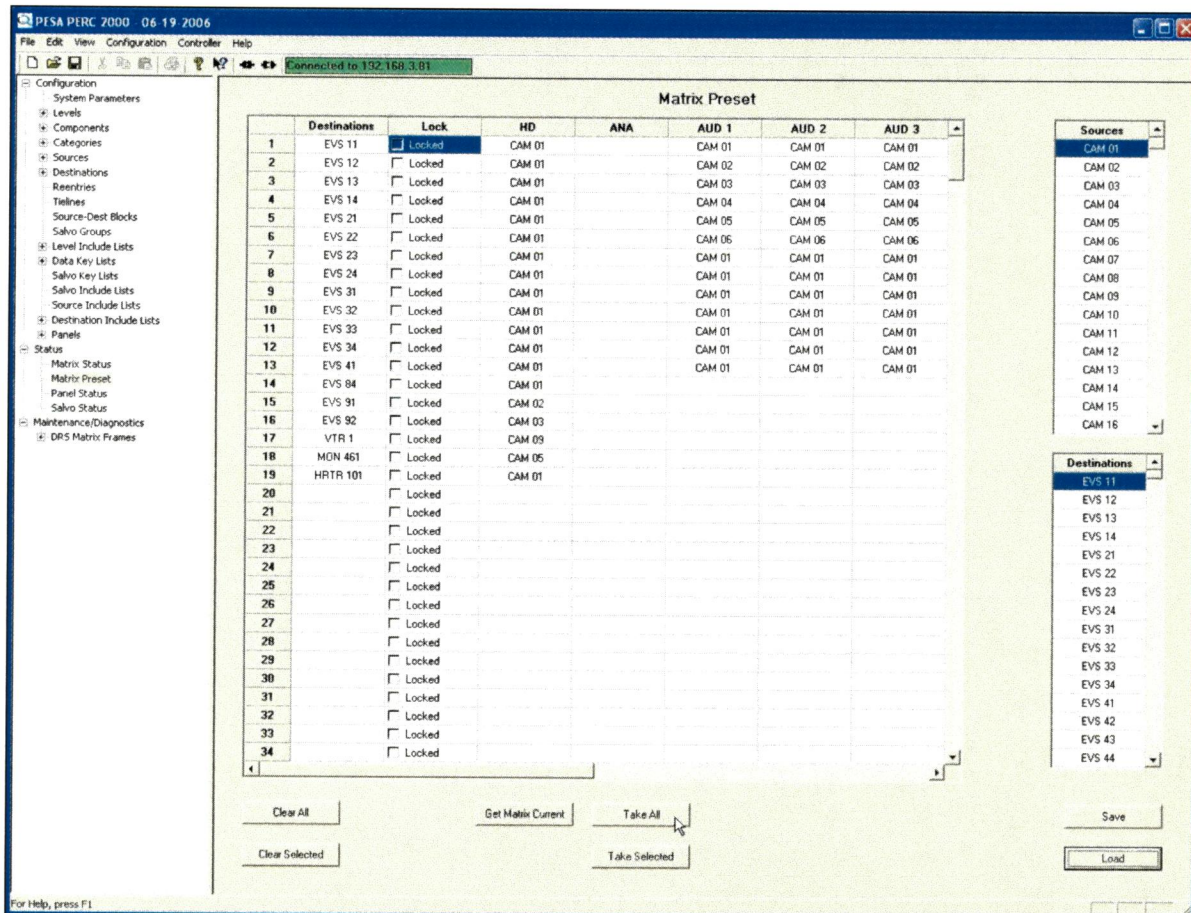

Figure 55. Take All Command Location
12. Once the window updates with the current matrix status, click the **Take All** button as shown in Figure 55.